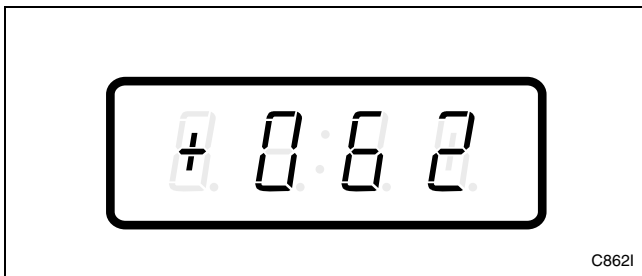

Figure 214
3. Press the LOW TEMP (+) or the NO HEAT (-) keypad to scroll through the programmable options until “+062” appears in the VFD. Refer to *Figure 214*.